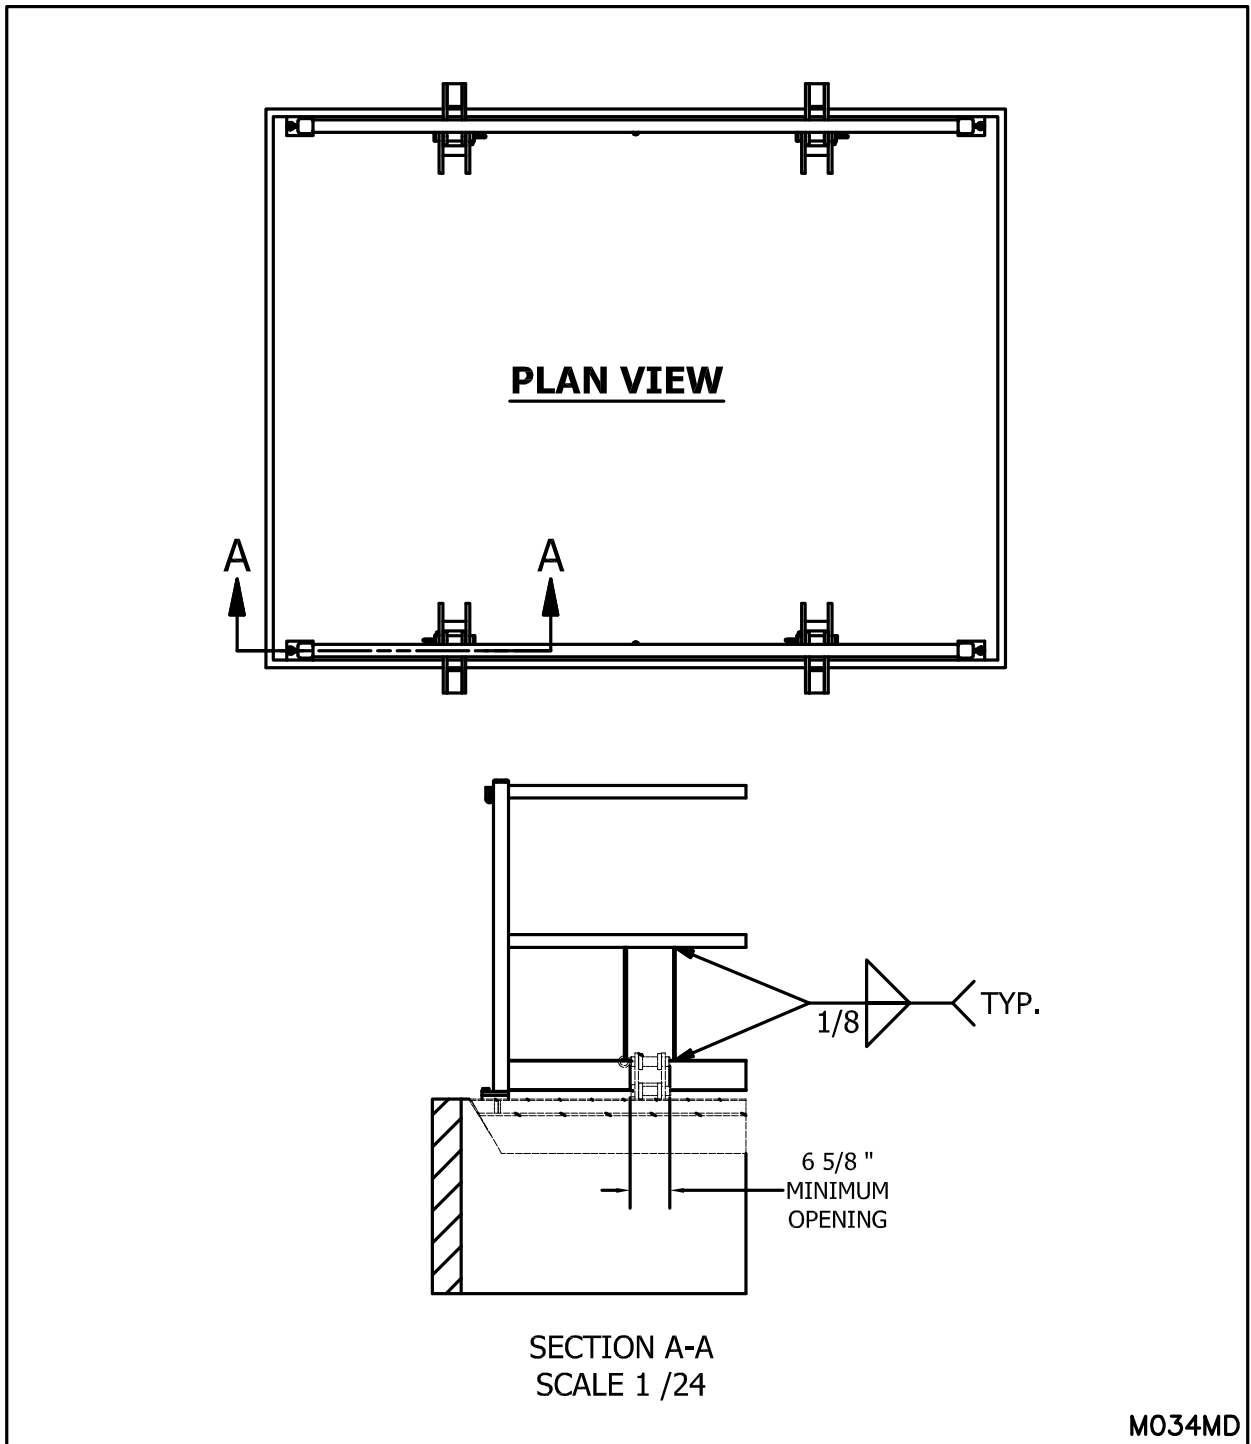

Figure 25: Night Locks Installation - Guardrails
4. Modify the kick plate as indicated in "Figure 25: Night Locks Installation - Guardrails" on page 28. Weld the vertical kick plate rails in place as indicated in the illustration.